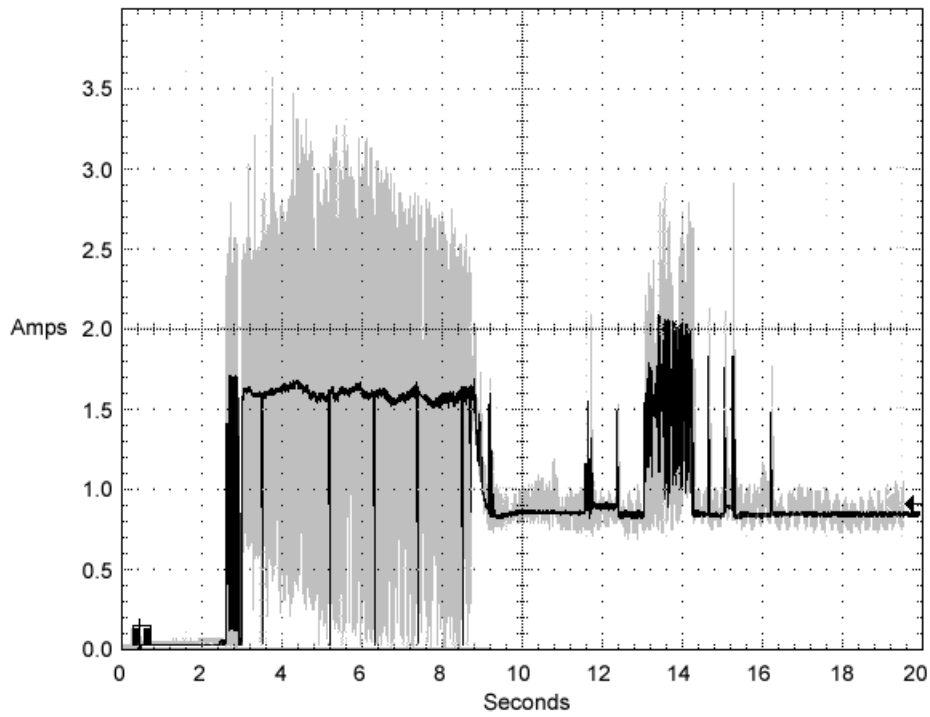

Figure 2. Typical ST3146854 drive +12V LVD current profile
- [3] See +12 V current profile in Figure 2.
Figures 2 through 7 show the current profiles for each model.